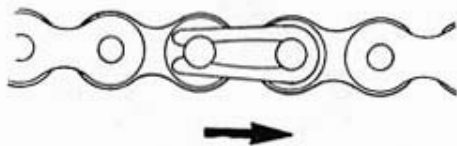

Fig. 3
- Fit the chain on the dual sprocket making sure that the "master" link clip is facing the correct way. The closed end of the spring clip must face the direction of chain travel (fig. 3).